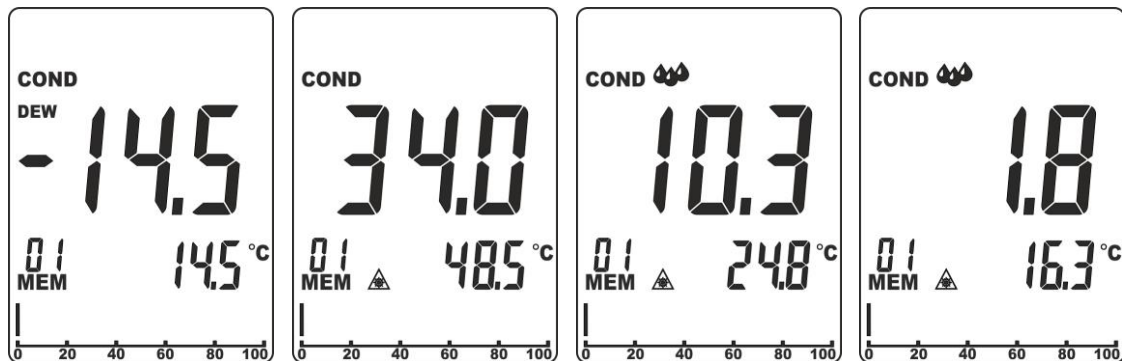

Fig. 11: Measurement of surface temperature difference
3. Press keys **RH%** and **MOI** at the same time to enter the Condensation measuring mode. The instrument shows the value of dew point temperature measured by the in-built sensor on the secondary display and indications “COND” and “DEW” appear on the display (see Fig. 11 – first screen). The main display always shows the difference between the value of IRT temperature and dew point temperature.
- If IRT temperature is **higher** than dew point temperature → **by more than 14°C (25°F)**, temperature difference (IRT-DP) is shown on the main display with no further indications (see Fig. 11 – second screen).
- If IRT temperature is **higher** than dew point temperature → **by 3°C÷14°C (5°F÷25°F)**, temperature difference (IRT-DP) is shown on the main display, indication “▲” appears on the display and the instrument gives out a sound to indicate a risk of condensation in the area (see Fig. 11 – third screen).
- If IRT temperature is **higher** than dew point temperature → **by less than 3°C (5°F)**, temperature difference (IRT-DP) is shown on the main display, indication “▲▲” appears on the display and the instrument gives out a double sound to indicate a high risk of condensation in the area (see Fig. 11 – fourth screen).